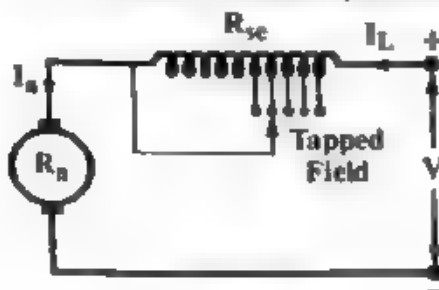

Fig. 4.17
(3) Tapped Field Control – In this method, the number of turns of the series field winding can be changed by short circuiting a part of it as shown in fig. 4.17. We know that flux produced by the winding depends upon the ampere turns (i.e., $\phi \propto I_{se} \times \text{Number of turns}$). As the number of turns are decreased, the motor speed is increased ($N \propto 1/\phi$). Therefore, only speeds above the normal speed can be achieved by this method.